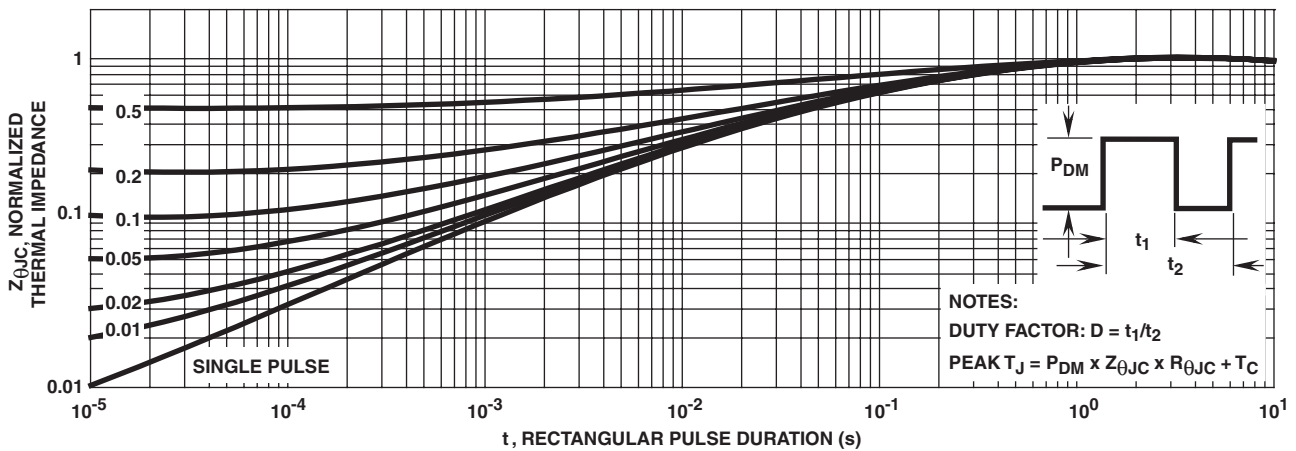

FIGURE 3. NORMALIZED MAXIMUM TRANSIENT THERMAL IMPEDANCE
- Repetitive rating: pulse width limited by maximum junction temperature. See Transient Thermal Impedance curve (Figure 3)